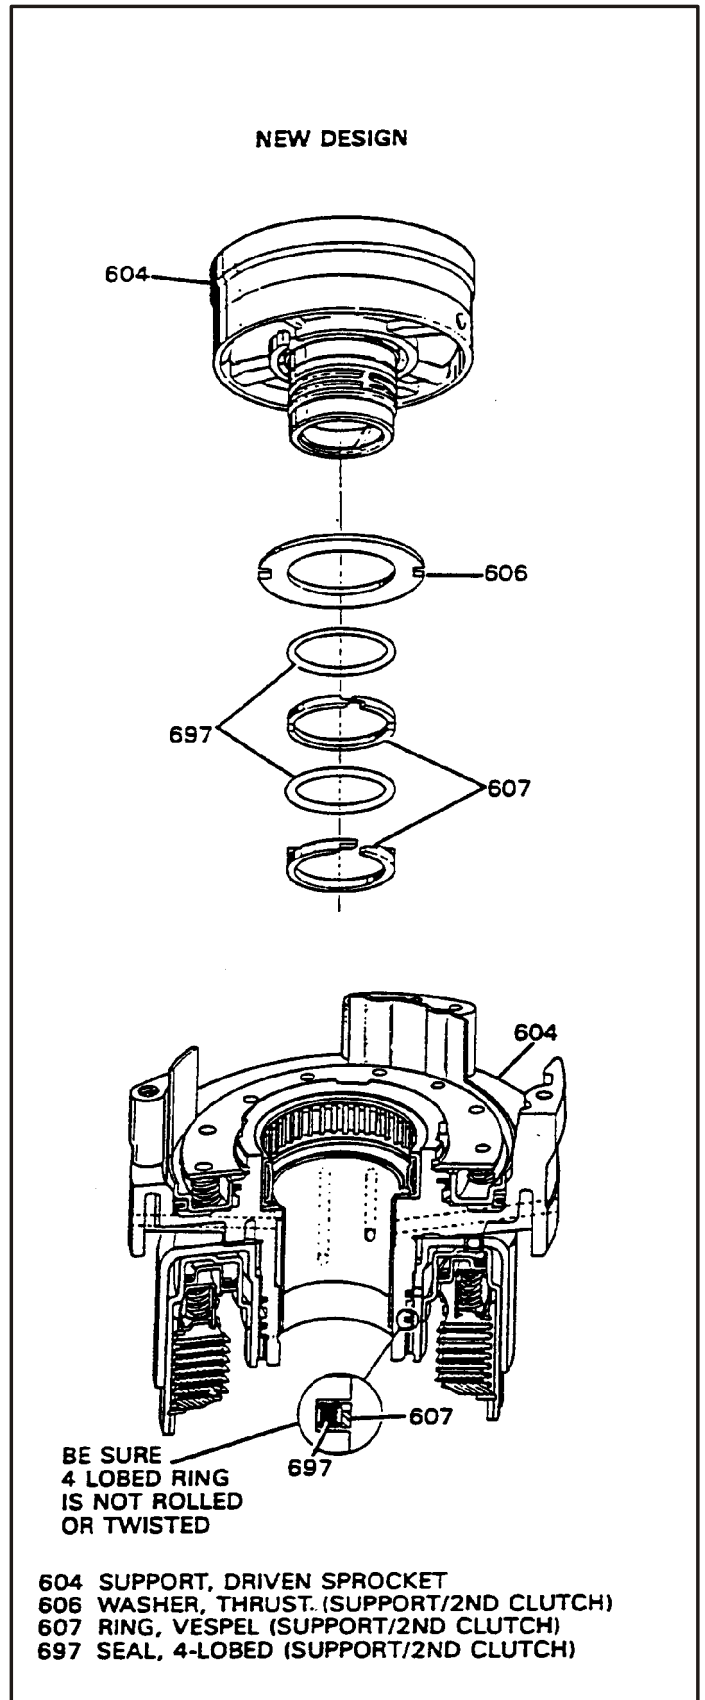

Figure 3
Due to changes in the driven sprocket support for 1987, the new Vespel (TM) oil seal rings and 4-lobe ring seals are not interchangeable with the cast iron oil seal rings on models built prior to 1987 Start Of Production (SOP). Changes made to the driven sprocket support include deeper seal ring grooves and 'cutouts" to accommodate the ring tangs which prevent the Vespel (TM) oil seal rings from rotating (refer to Figure 3).
SERVICE NOTES; (Figure 3, Item 697)